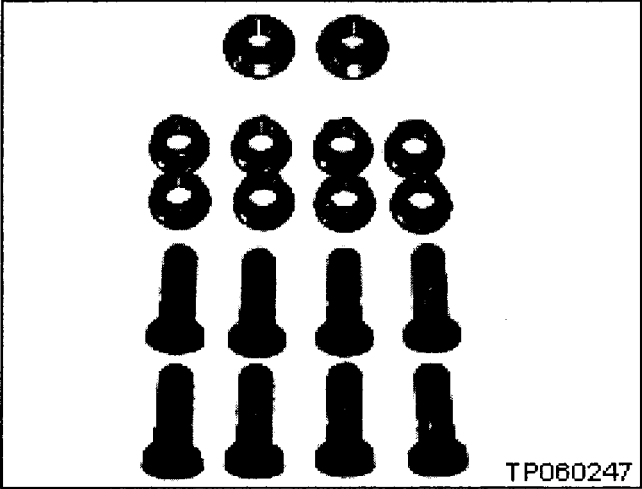

Figure 1b
- Propeller shaft bolt kit; Figure 1b.